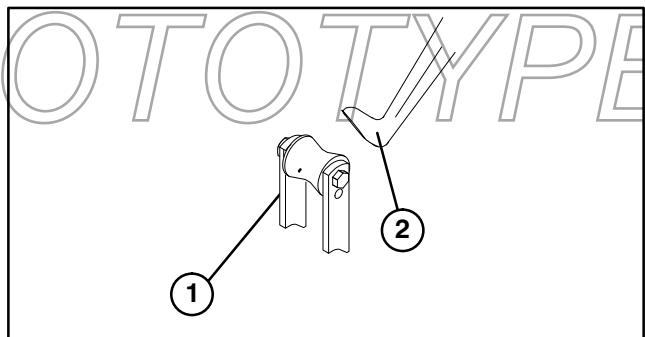

Figure 4
2. Slide spiker unit under traction unit pull frame while hooking lift roller onto lift arm (Fig. 4).